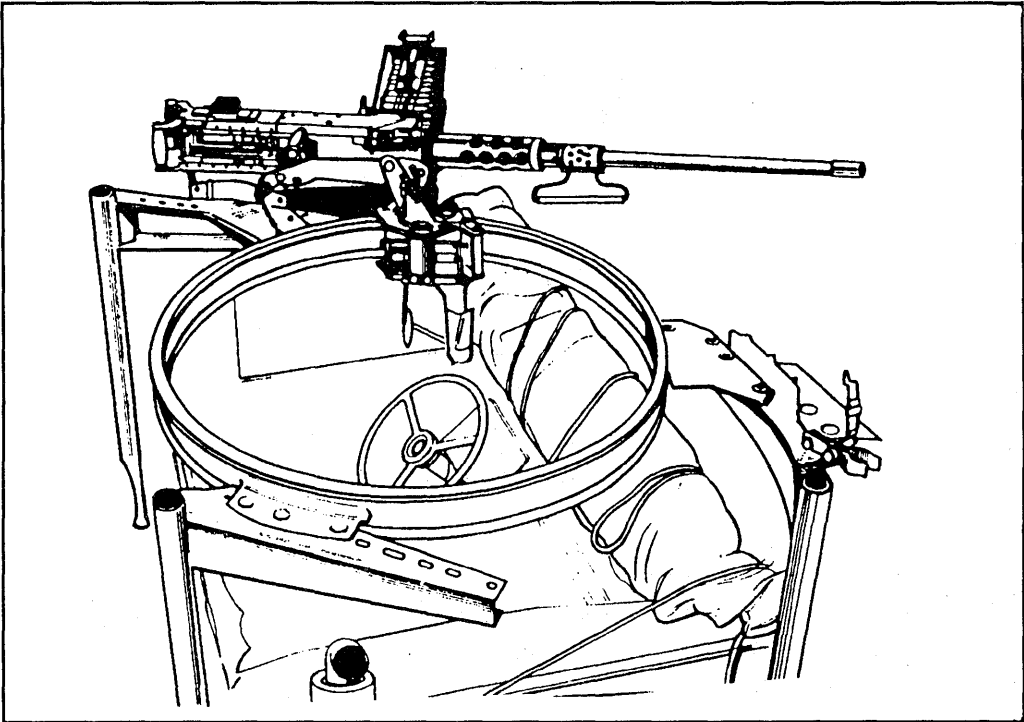
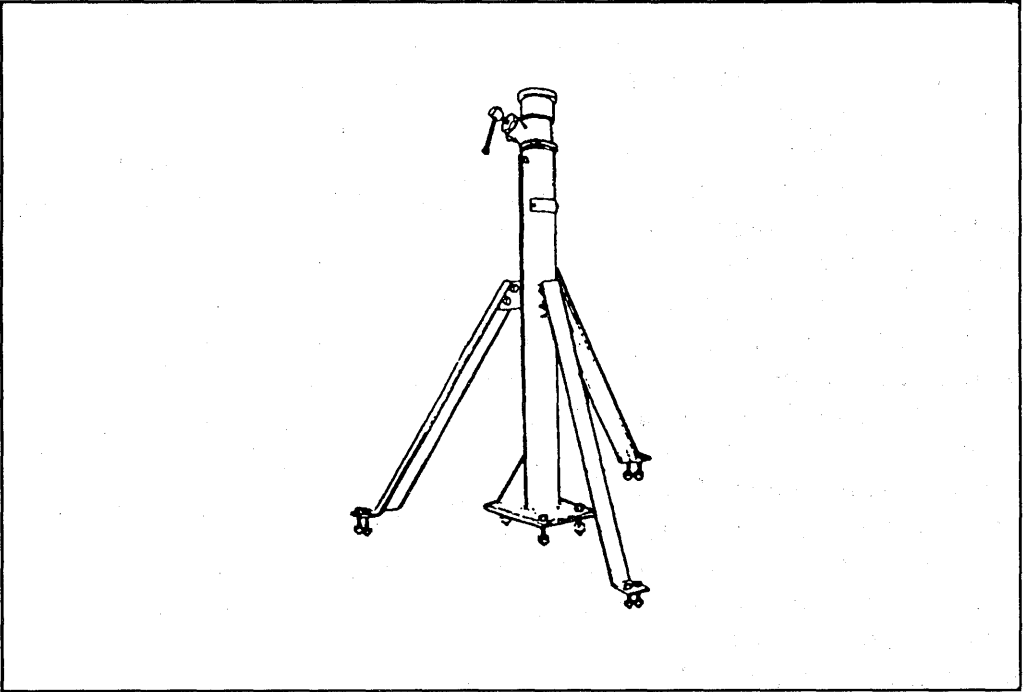

Figure 1-10. Truck mount, M36.
Figure 1-11. Pedestal truck mount, M31C.
a. **Truck Mount, M36.** This mount consists of a cradle with a roller carriage on a circular track (Figure 1-10). The cradle can be rotated in the pintle sleeve of the carriage and can be adjusted for elevation. The carriage is guided on the track by rollers. The track is secured to the vehicle by supports.
(1) To move the gun in elevation on the M36 mount, remove the cradle locking pin and place it in the carriage handle; grasp the spade grips and elevate or depress as desired. The gun is also moved in traverse by pressure on the spade grips.
(2) To move the gun on the track, raise the brake handle lever until it is retained by the brake detent plungers. The cradle may then be moved on the track by applying pressure on the carriage handle.
b. **Pedestal Truck Mount, M31C.** Pedestal mounts are component assemblies designed for installation on the 1/4-ton vehicles to support a machine gun mount. They are composed of a pintle socket, pintle clamping screw column, and braces (Figure 1-11).